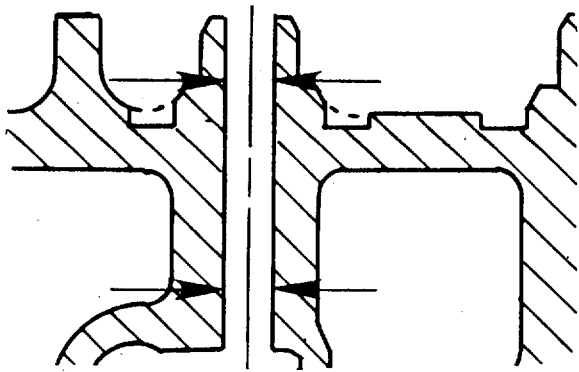

FIGURE 4-10 . Measuring Valve Guide Bore.
- f. Inspect the valve guides for scuffing or scoring. Measure the valve guide bore as shown in FIGURE 4-10. Minimum (MIN) and Maximum (MAX) diameters are shown in Table 4-1.